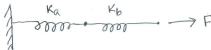

Figure 1
- 4. a) Determine the global stiffness matrix for the following multi-element system shown in **Figure 1** (5)